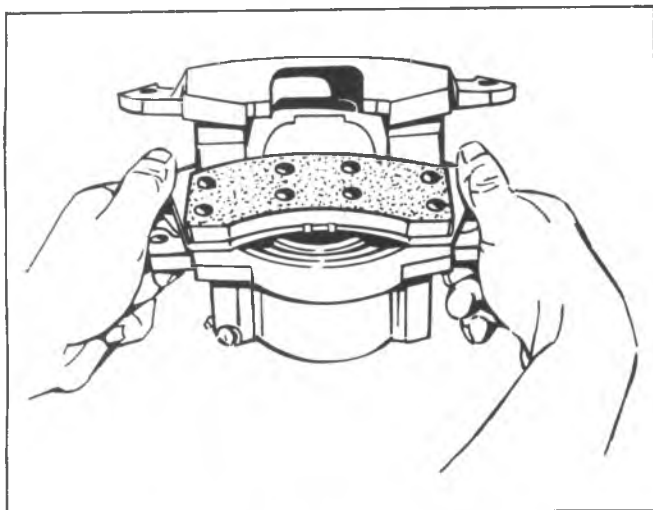

Fig. 5-27-Installing Inboard Shoe
4. Position the inboard shoe and lining assembly (with spring attached) in the caliper so that the ear end of the shoe and lining is down and the bottom end up at an angle with the spring resting on the piston I.D. (fig. 5-27). Press down on both ends of the shoe until the shoe is in a flat position, resting on the piston. The spring end of the inboard shoe support spring should be resting on the I.D. of the piston.